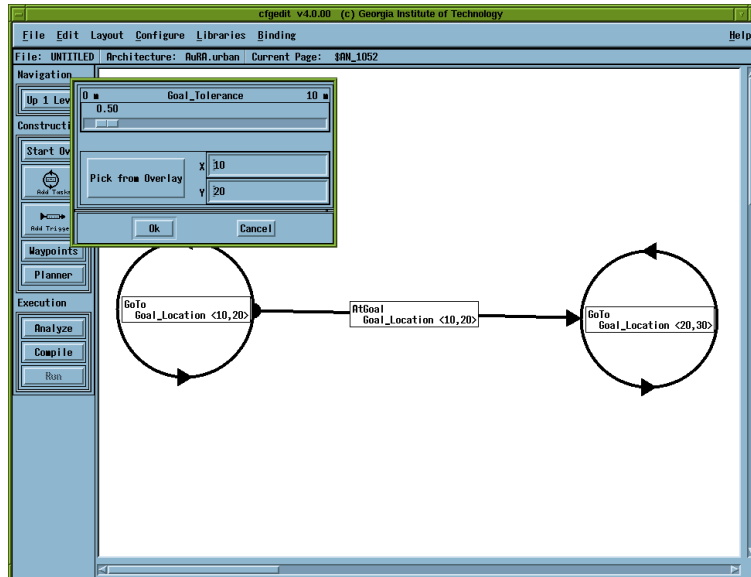

Figure 13: *CfgEdit* - the parameters for a trigger can be modified by middle-clicking on it the trigger.
- The trigger connected between the first “GoTo” state and the second “GoTo” state should have automatically appeared as “AtGoal”, and the value for the goal location should be automatically copied from the first “GoTo” state ($<10, 20>$). Even though this is correct and you do not have to modify this trigger, you can right-click on it to see the rest of the triggers that are available (Figure 12). If you want to modify the parameters for the trigger, you can middle-click on it like you did for the state (Figure 13).